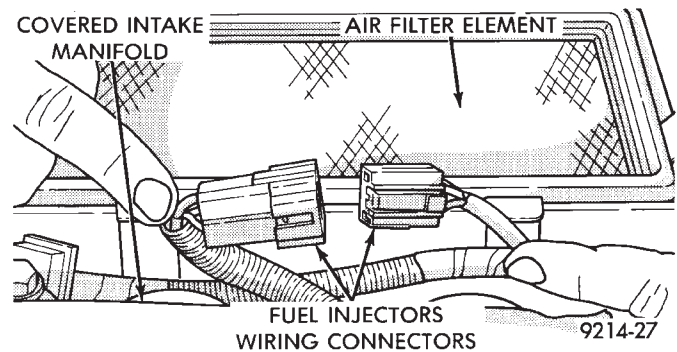

Fig. 11 Fuel Injector Wiring Harness
- (8) Install fuel supply and return tube hold-down bolt and the vacuum crossover tube hold-down bolt and torque to 10 N•m (95 in. lbs.).
- (9) Connect fuel injector wiring harness to engine wiring harness (Fig. 11).